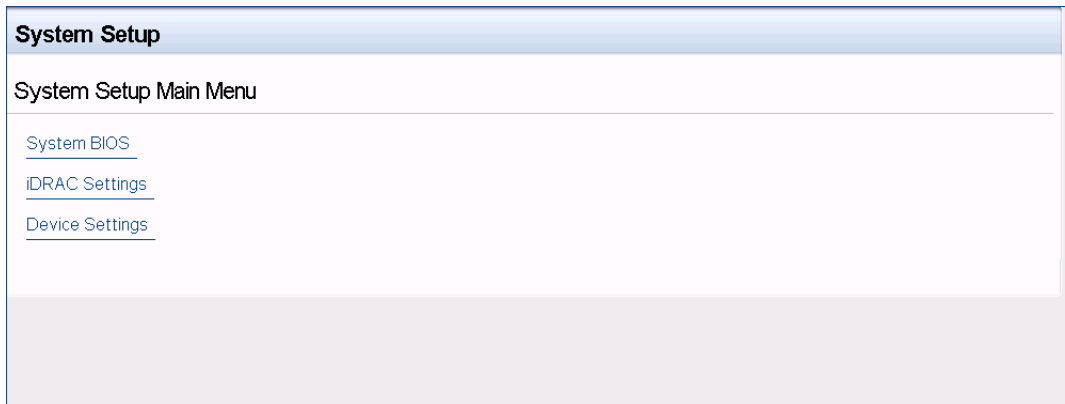

Figure 5-1. System Setup
2. In the System Setup window (Figure 5-1), select **Device Settings**, and then press ENTER.